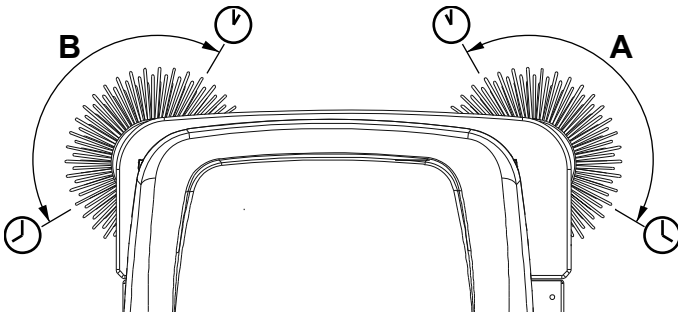

Figure 4
3. Turn the ignition key (64) and start the machine.
4. Lower the side broom with the lever (52) and let it run for 1 minute.
5. When lowered, the side brooms (9) (15, equipped on SR 1601 MAXI) should be contacting the floor as shown in the figure (A and B, Fig. 4).